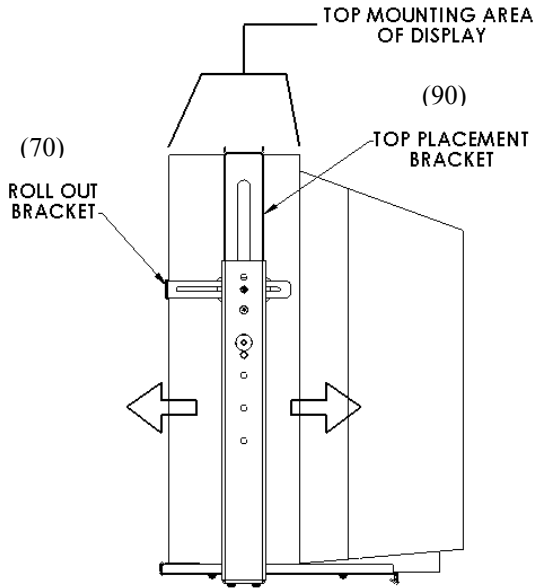
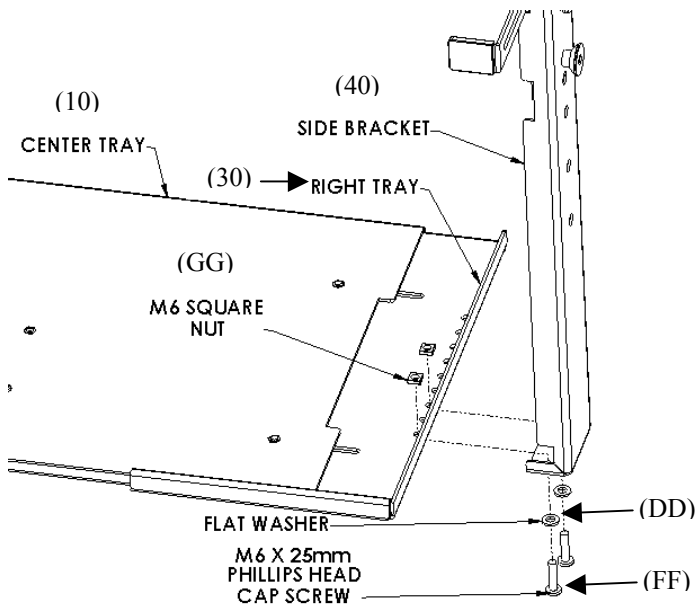

Figure 9. Determine Mounting Area of Monitor
Figure 10. Attach Side Brackets to End Trays
1. Determine the top mounting area of your monitor. See Figure 9. If necessary, use a tape measure.
2. With the mounting area (size) in mind, position the assembled side brackets (40) at the mid point of the monitor top.
3. Mark the location of the set of holes in the end trays (20 or 30) that are closest to mounting holes in the side bracket (40). See Figure 10.
4. Align the holes and install two M6 square nuts (GG), two flat washers (DD), and two M6 X 25mm Phillips head cap screws (FF) in the mounting holes as shown in Figure 10. Tighten the cap screws (FF) securely.